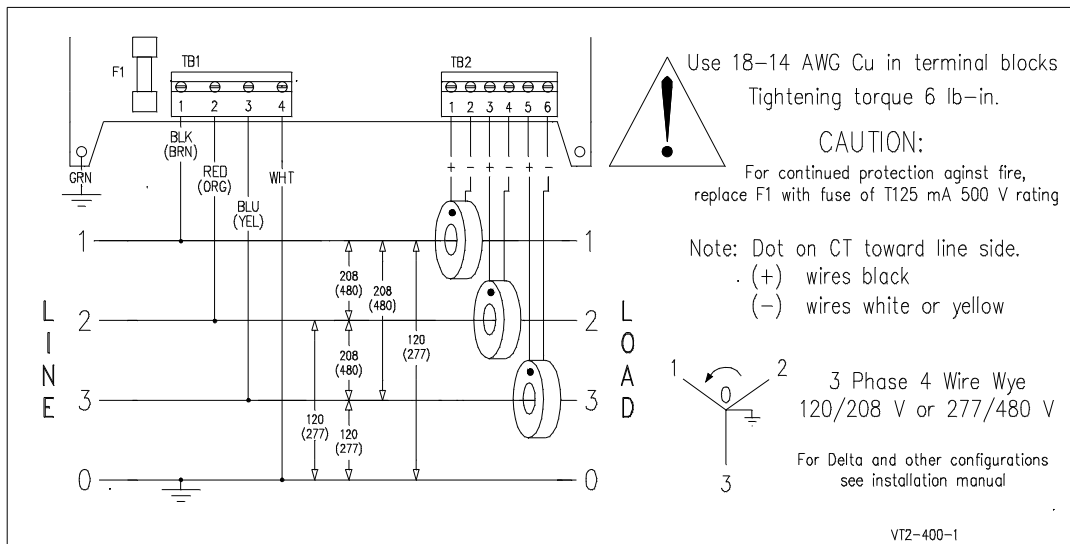

Figure 3 Wiring Diagram for 3-Phase 4-Wire Wye or Delta Service
Step 5 Referring to the wiring diagram on the inside of the meter cover, terminate CT, voltage, ground, and neutral leads. See Figure 3 for a 3 Phase 4 Wire Wye or 4 Wire Delta service and Figure 4 for a 3 Phase 3 Wire Service.
- c) Using the wiring diagram found on the inside of the meter cover, make the appropriate voltage and current lead connections. Refer to Figure 3 for a wiring diagram for a 3-Phase 4-Wire Wye or Delta service and Figure 4 for a 3-Phase 3-Wire Delta service.